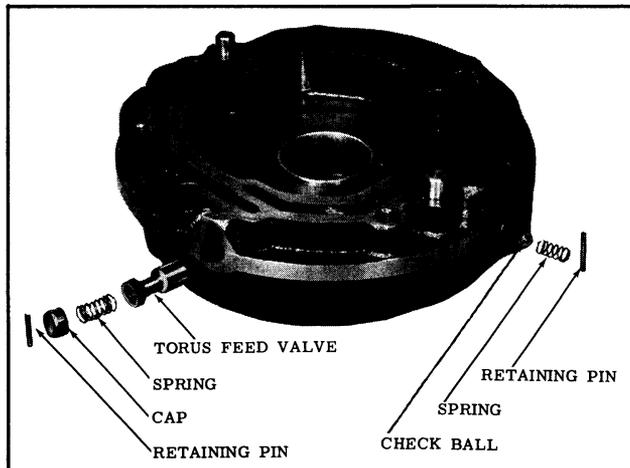

Fig. 3-98 Front Oil Pump Valves
6. Remove the torus feed valve retaining pin, cap, spring and valve. (See Fig. 3-98)